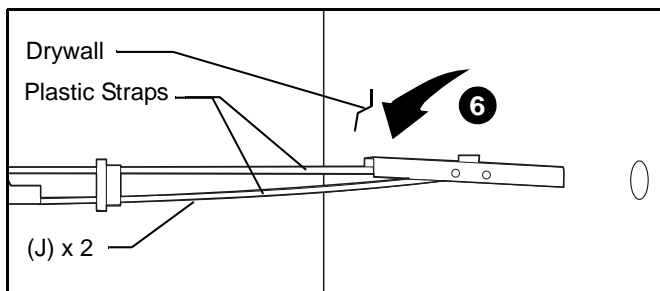

Figure 6
6. Hold metal channel on anchor (J) flat alongside plastic straps and slide channel through hole. (See Figure 6)